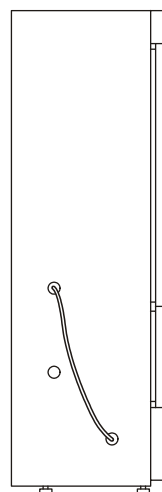

Fig. 8
4. Remove the caps (both outside and inside) covering the access port for refrigerator and take out the thermal insulation in the port. Pass the recorder sensor to the chamber through the port. Then replace the thermal insulation and caps (both outside and inside). Replace the cap on the port for taking out the recorder sensor. (Fig.8)